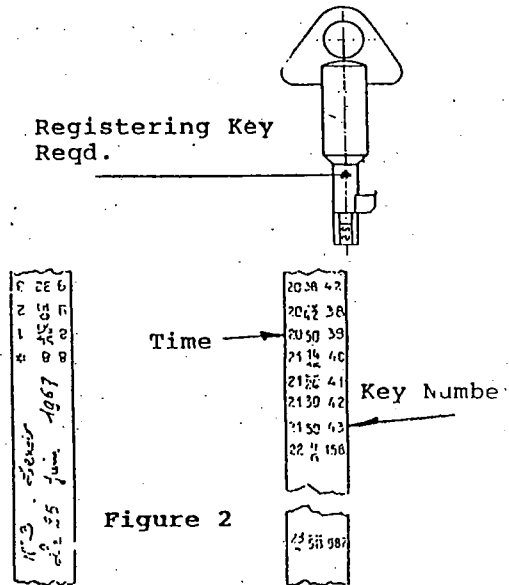

Figure 2
2. A Printing mechanism which simultaneously prints on paper tape the hours and minutes and the individual number of each patrol key. See Figure 2.